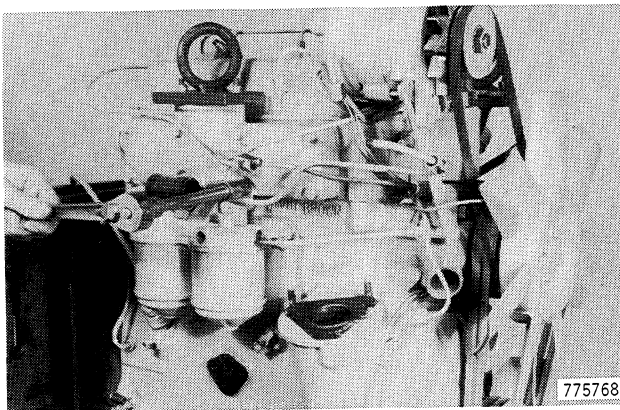

Figure 22
3. Remove the cap screw that holds the clamp on the fuel supply tube, Figure 22.